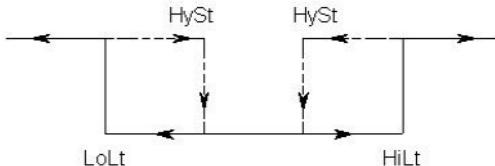

Fig. 2
Terminal layout Fig. 2
- * The function of " Low Limit value " setting, refer to page 10, Fig. 2.
- * The function of " High Limit value " setting, refer to page 10, Fig. 2.
- * The function of " Hysteresis value " setting, refer to page 10, Fig. 2.